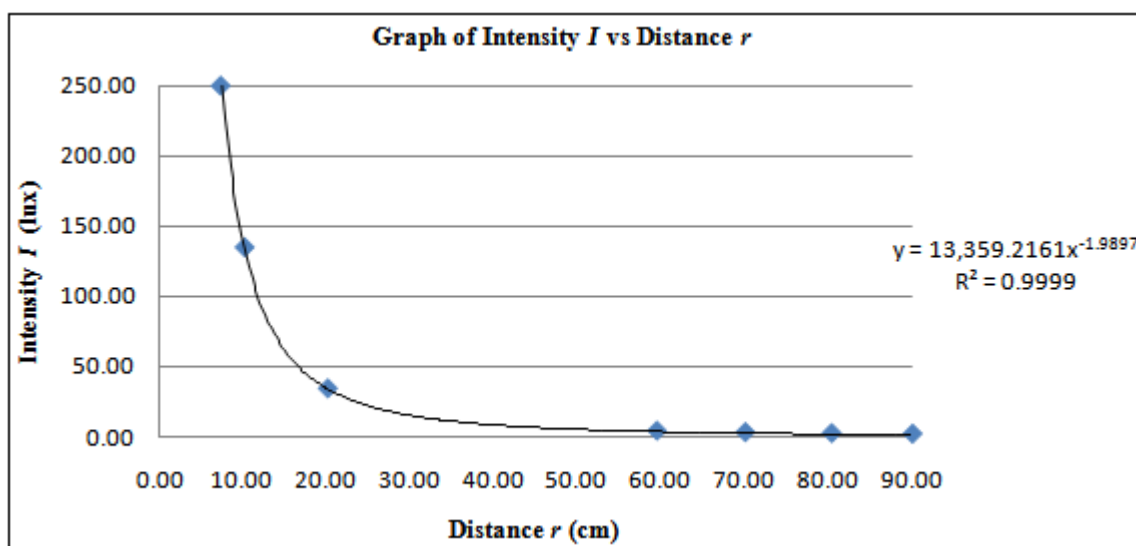

Figure 6. Graph of intensity I vs distance r .
Using Figure 6, we have $Y = 13,359.2161x^{-1.9897}$. Applying this to Equation (1), we have: